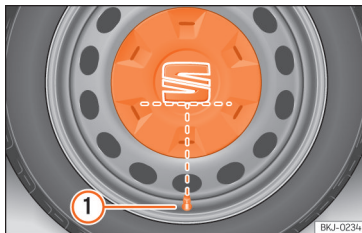

Fig. 34 Correct positioning of the central wheel trim for steel rims.
- Fit the central wheel trim onto the rim. The bottom of the "S" of the SEAT badge should align with the inflation valve »» Fig. 34 ①.